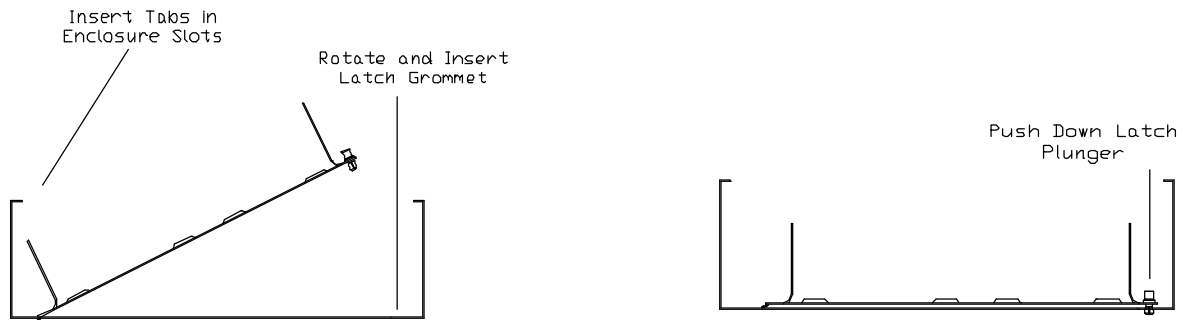

Figure 3
B. Mounting in enclosure – Refer to Figure 3.